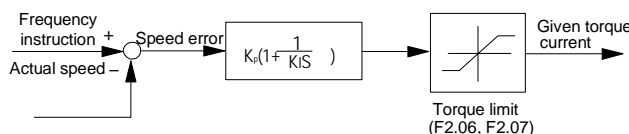

Figure 6-21 Simplified block diagram of ASR
1. Speed regulator's (SR's) structure is shown in Figure 6-21. In the figure, KP is proportional gain P, KI is integration time I.